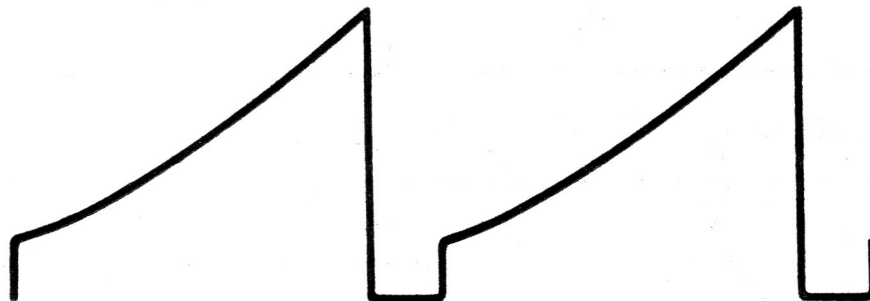

Figure 4
(item 175) and the 8200 ohm resistor (item 86) causes the plate voltage waveform to appear as in Figure 4.